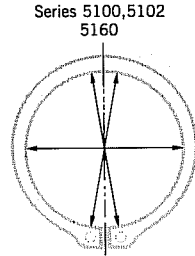

FIG. 2
- For Series 5100, 5102 and 5160: Release ring and measure free diameter (dimension "D") in three directions through center of ring as shown in Fig. 2 above. Ring is fully operative if: